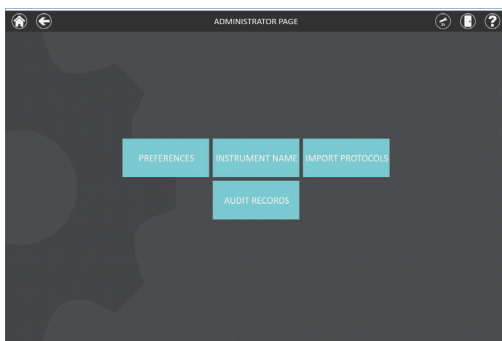

Figure 76. ‘Administrator Page’ screen.
2. On the ‘Settings’ screen, tap the **Administrator** button to open the ‘Administrator Page’ screen (Figure 76). This button is only visible if the current user has Administrator-level access to the GloMax[®] software.